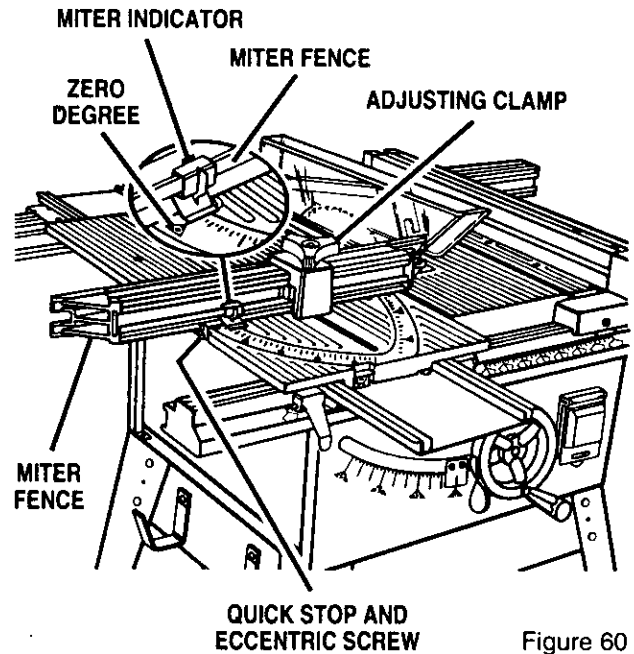

Figure 60
- Place the quick-stop against the miter fence with miter scale set at zero degrees. *See Figure 60.*